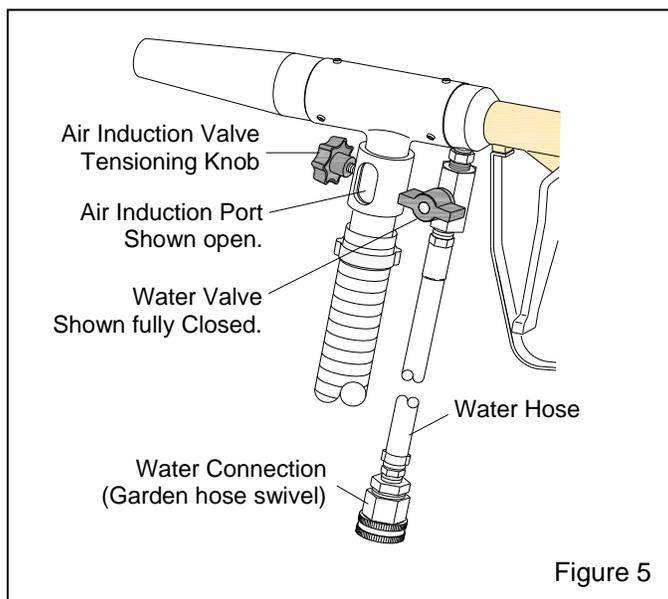

Figure 5
3.2 Water Connection (H2O Model), Figure 5